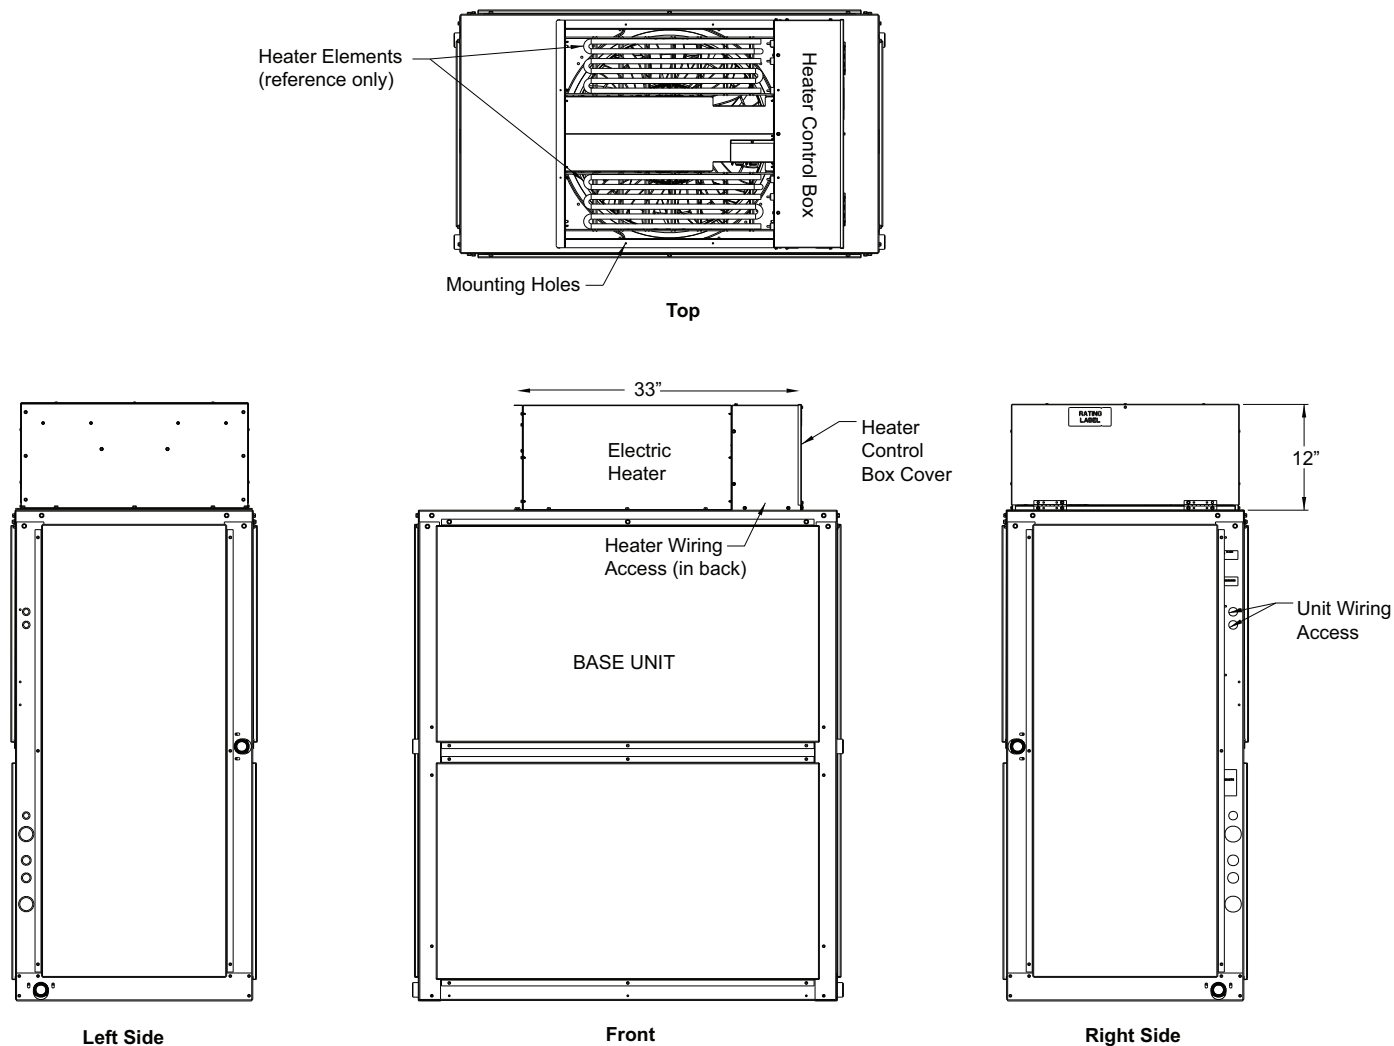

Fig. 1 — Electric Heater Mounted on Unit
The heaters must be mounted on the supply duct(s) of the air handler for blow-thru operation, as shown in Fig. 1 and 2. Do not install the duct flanges shipped with the unit. Mount the heater as follows:
2. Place heater on top of unit with the heater control box positioned on the left. See Fig. 1 and 2.
NOTE: Figures 1 and 2 shows vertical installations. For horizontal unit installations, the procedure for mounting the electric heat accessory is similar to the preceding steps; ensure that the heater control box faces down after the heater is installed on the unit.
1. Size the supply air ductwork according to the discharge opening(s) in the top of the heater (see Fig. 1 and 2). A 1 in. (25 mm) flange is provided on each heater discharge for securing the ductwork.